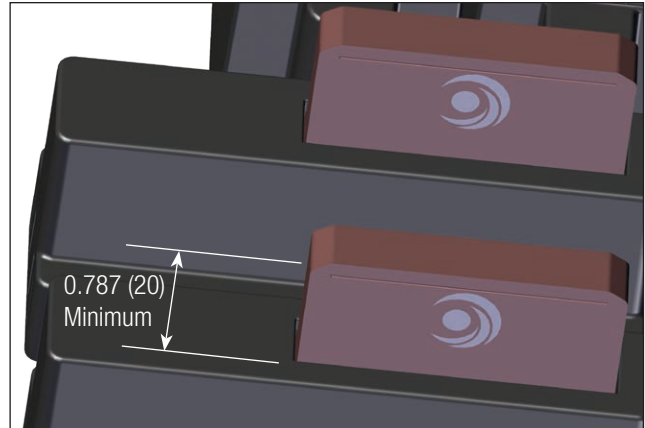

Figure: 5-1
- 5.1.1 Inspect the electrical brushes on the collector for wear. If the brush is worn to the wear line etched into the side of the brush, the brush is considered worn and should be replaced. See **Figure: 5-1**.